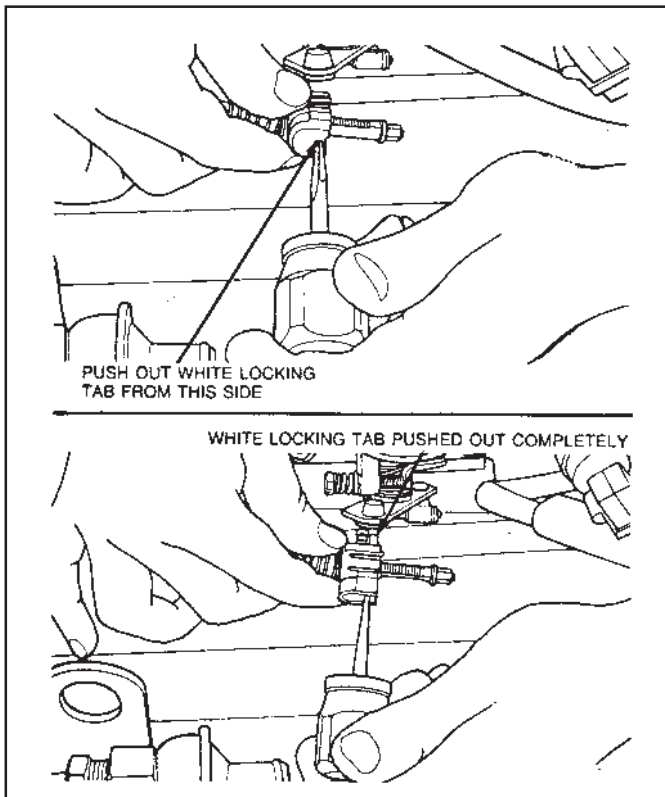

Figure 21
- 6.4 Check to ensure plastic block with pin and tab slides freely on notched rod. If it does not slide freely, the white tab may not be pushed out far enough. (See Figs. 21 & 22.)